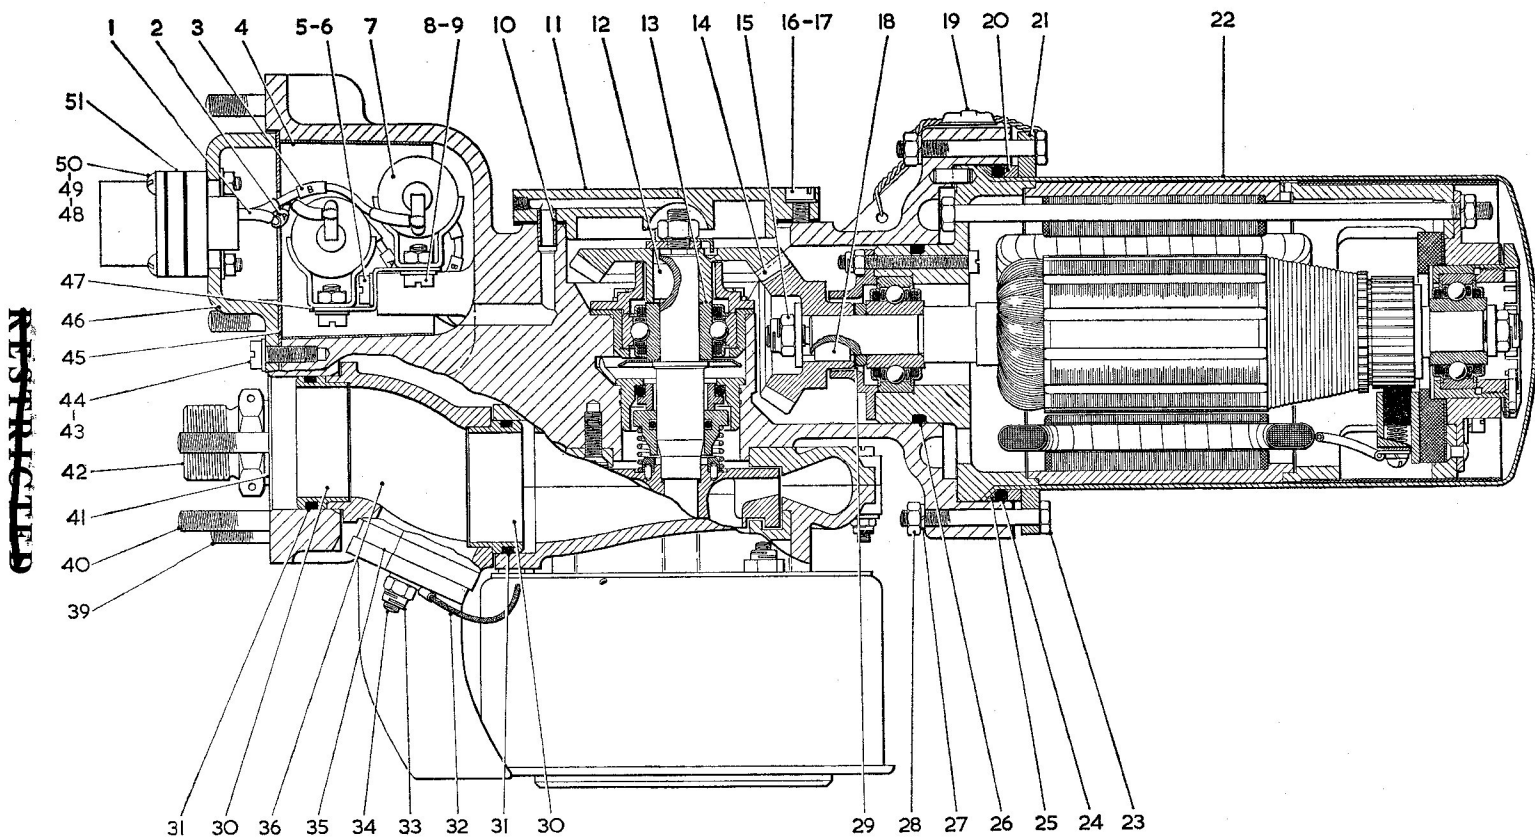

Fig. 1. Sectional view of pump/motor assembly
5. (1) Refer to Fig. 1. Remove the five cheese-head screws (43) and shakeproof washers (44) securing the cover plate assembly (46) to the end face of the pump casting.
Removing the suppression units (fig. 1)
Key to Fig. 1
Separating the motor and pump units (fig. 1)
Dismantling the pump unit (fig. 1)
Removing the by-pass casting assembly (fig. 1)